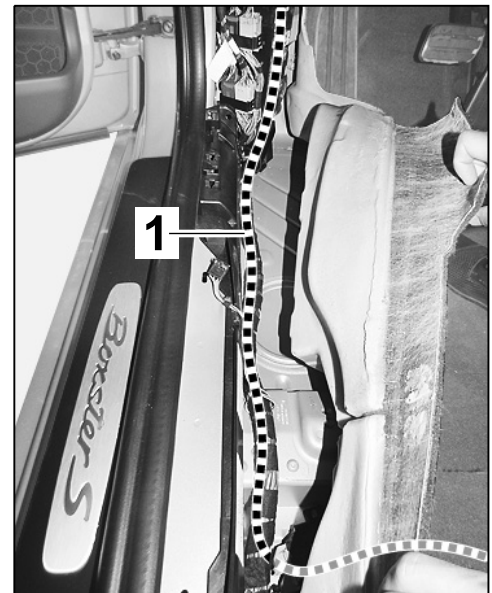

Figure 6
- 2.2.1 Route electric wire harness from rear-end electronics control unit position, along main wire harness in passenger compartment at the left ⇒ *Figure 6 -1-*.